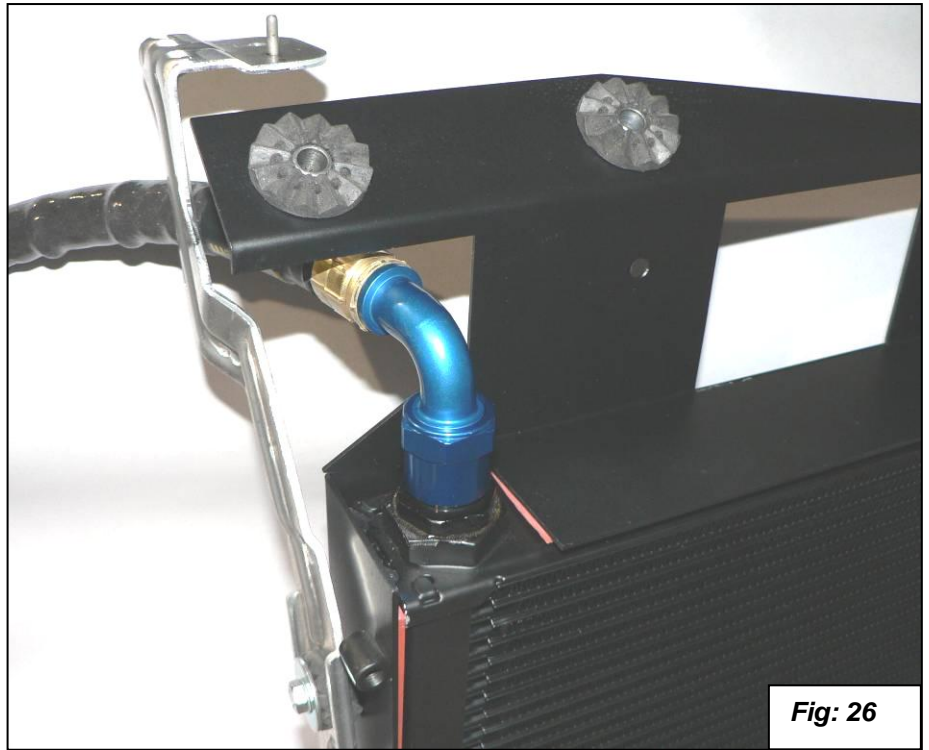

Fig: 26
35. Loosely install the oil line with the 90° fittings on each end. One end has a swivel and one end doesn't. Install the end without the swivel onto the topside of the oil cooler. Do not tighten yet. See figure 26.
36. Feed the oil line in between the bracket as shown in figure 27. Attach the oil cooler assembly to the mounts as shown with the two stock 8mm nuts and the 6mm bolt. Torque nuts to 20Nm (15ft-lbs.) and bolt to 8Nm (6ft-lbs.). See figure 26. Install the supplied small pieces of edge trim to the bracket where the hose might rub.